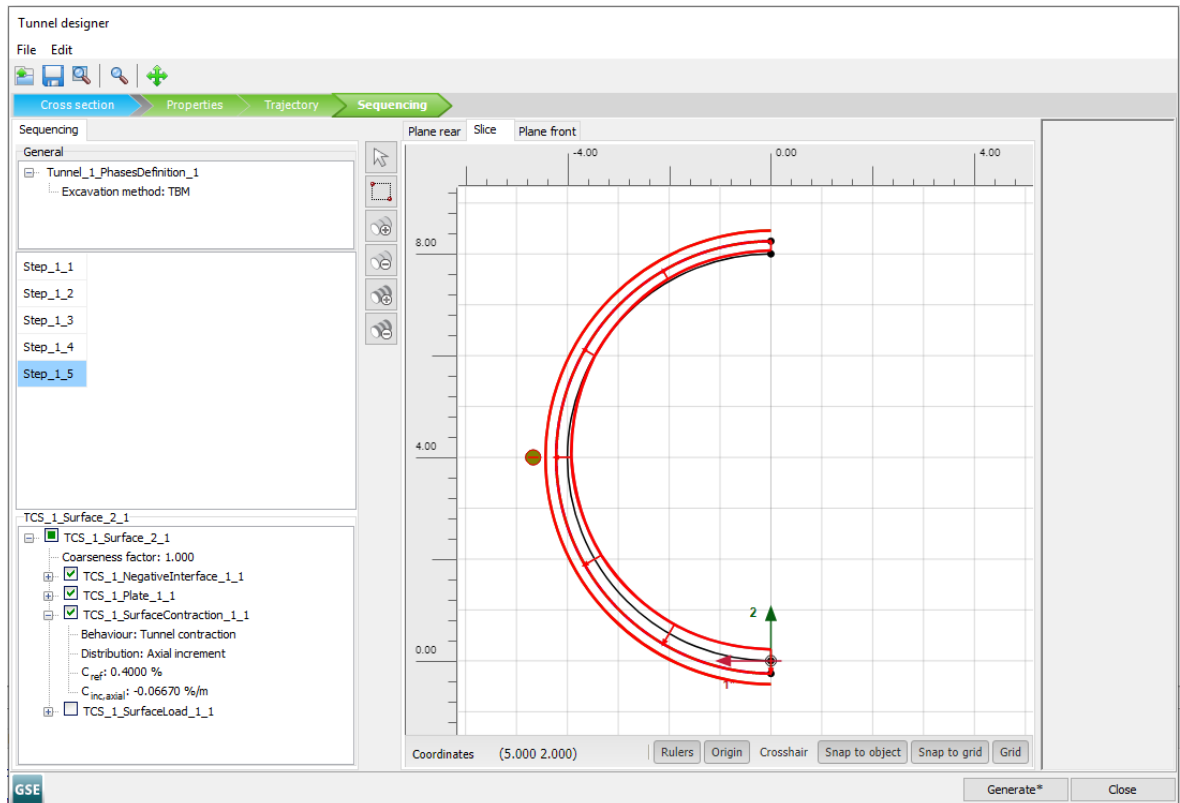

Figure 5-17: Slice tab Tunnel designer <Step_1_3 to Step_1_5>Definition of surface contraction
-  Click on the **Add Step** button three times to add three new steps. These steps are necessary to define the remaining cone part of the TBM shield (Figure 5-17 \(p. 99\)).
Step_1_5: $C_{ref} = 0.4\%$, see Figure 5-17 \(p. 99\)